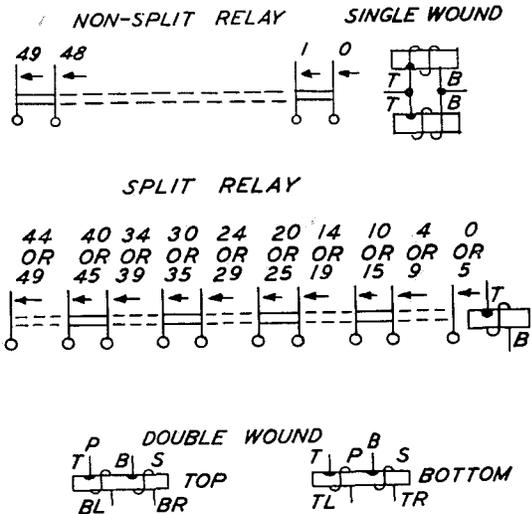

FIG. 33- WINDING AND CONTACT SPRING ARRANGEMENT AS VIEWED FROM THE FRONT (CONTACT SIDE)-245, 254, 263 AND 264 TYPE RELAYS.
2.46 The contact springs are numbered consecutively in vertical rows of ten pairs of springs starting at the bottom with pair 0 in the row nearest the vertical armature as shown in Fig. 33 and continuing